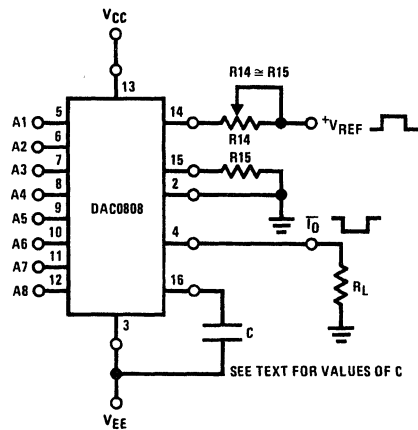

FIGURE 7. Positive VREF (Note 7)
**Curve A:** Large Signal Bandwidth Method of Figure 7,  $V_{REF} = 2\text{ Vp-p}$  offset 1 V above ground.
**Curve B:** Small Signal Bandwidth Method of Figure 7,  $R_L = 250\Omega$ ,  $V_{REF} = 50\text{ mVp-p}$  offset 200 mV above ground.
The reference amplifier provides a voltage at pin 14 for converting the reference voltage to a current, and a turn-around circuit or current mirror for feeding the ladder. The reference amplifier input current,  $I_{14}$ , must always flow into pin 14, regardless of the set-up method or reference voltage polarity. Connections for a positive voltage are shown in Figure 7. The reference voltage source supplies the full current  $I_{14}$ . For bipolar reference signals, as in the multiplying mode,